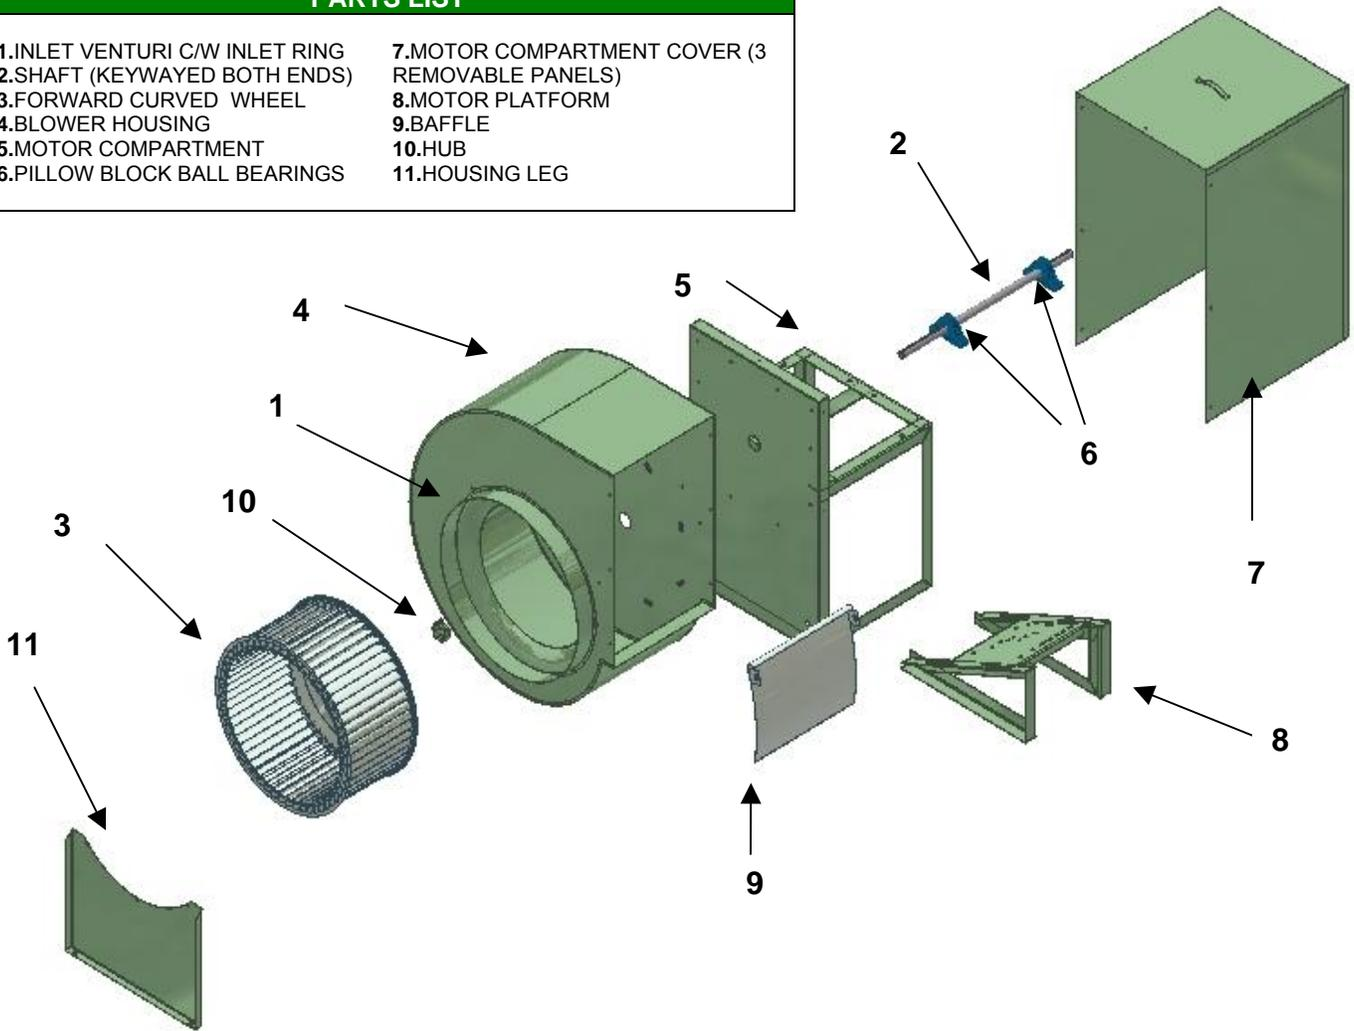

FIGURE 3:EXPLODED VIEW
- Should further service to the blower be necessary, refer to the exploded view illustration (Figure 3).